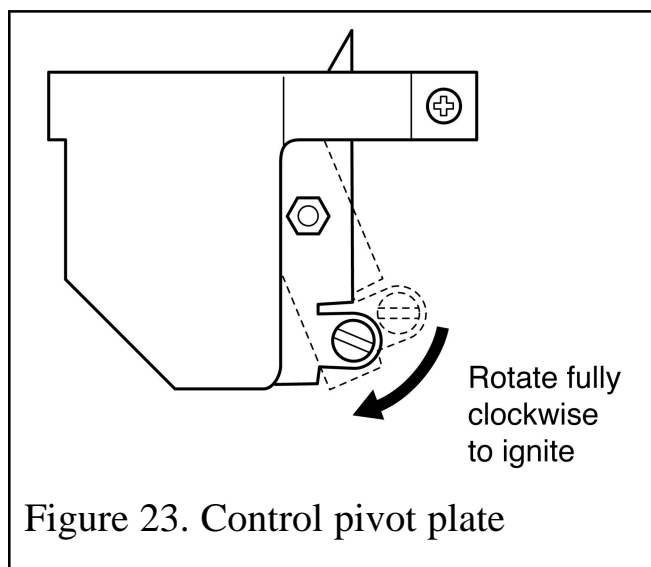

Figure 23. Control pivot plate
2. Rotate the control pivot bracket clockwise as far as it will go and hold in this position (See figure 23). This should close the ignition circuit and simultaneously open the gas tap allowing the gas to flow to the pilot. Wait a few seconds